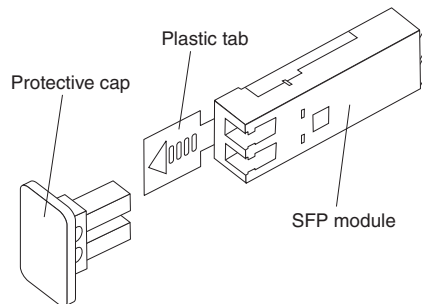

Figure 30. Small form-factor pluggable (SFP) module
3. Remove the protective cap from the SFP module, as shown in Figure 30. Save the protective cap for future use.